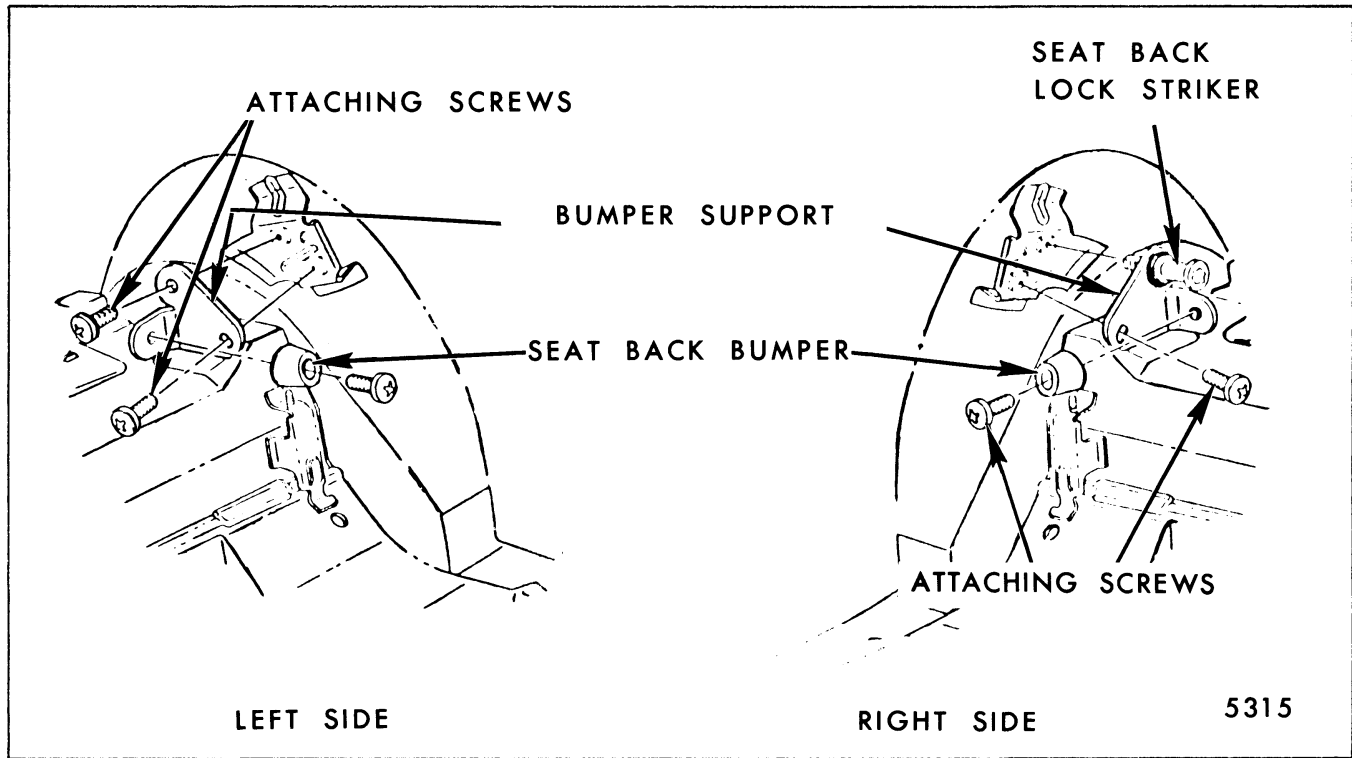

Fig. 9-71-Folding Rear Seat Back Lock Striker, Bumpers and Bumper Supports
1. Using lock striker removal tool J-23457 or BT-7107 or equivalent remove striker (Fig. 9-71).
2. To remove seat back bumpers or bumper supports remove bumper screws or support screws, shown in Figure 9-71.